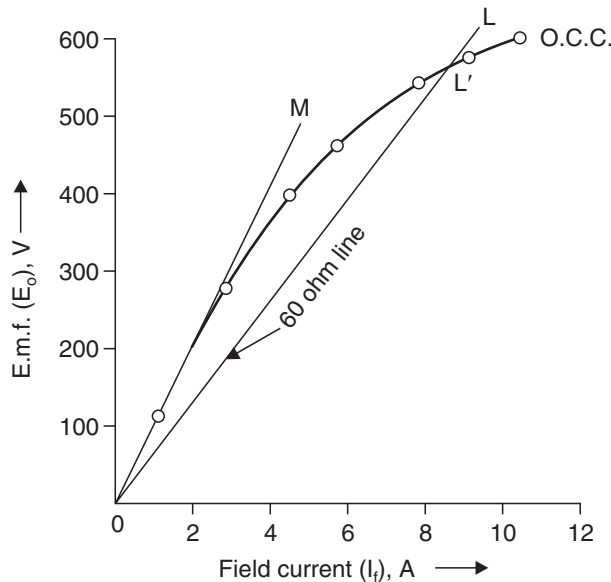

Fig. 47
- Plot O.C.C. (E_o/I_f) as shown in Fig. 47.